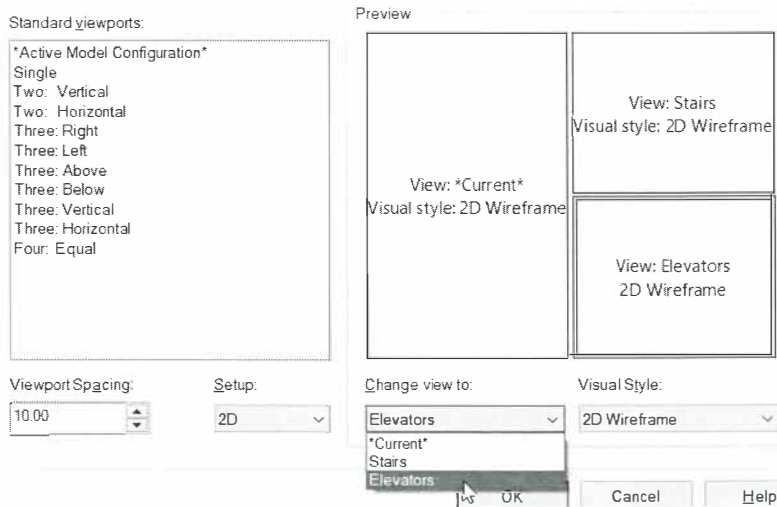

Figure 8–21
- Select two corners to place the three viewports in the layout, as shown in Figure 8–20.